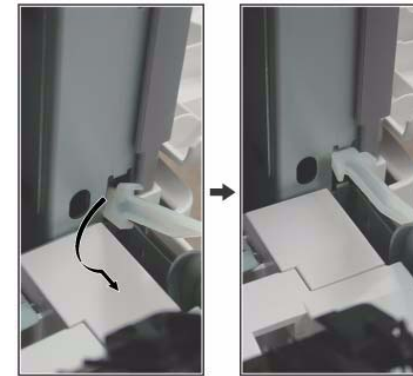

Figure 3 Open the L/H Cover
9. To open the L/H Cover Unit to the service position, rotate the Front Support 90 degree counterclockwise and pull it out one level. (Figure 3)